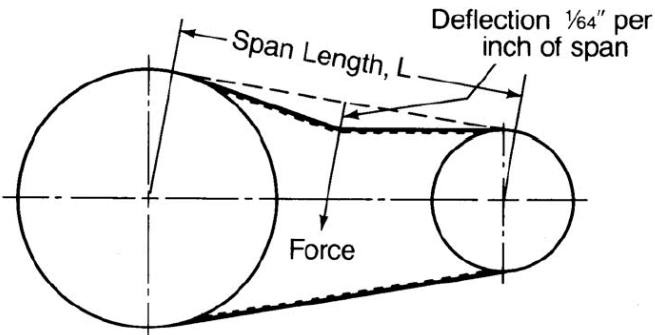

Figure 1
3. Measure the span length "L" of your drive (center to center) (see Figure 1).